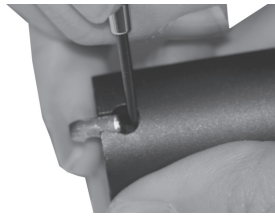

Figure 13
- 2) Install the new extractor by placing it into its slot against the plunger and pushing it back against the spring pressure and then down until it seats into the recess and the plunger snaps into place to retain it. See figure 13.